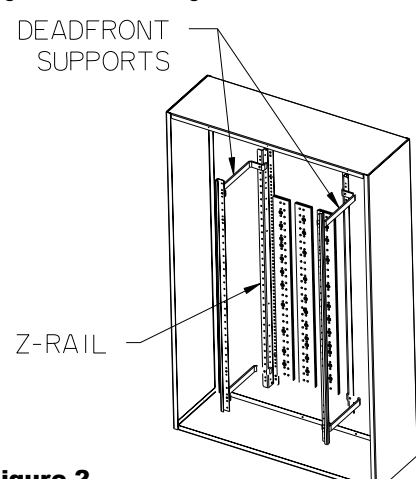
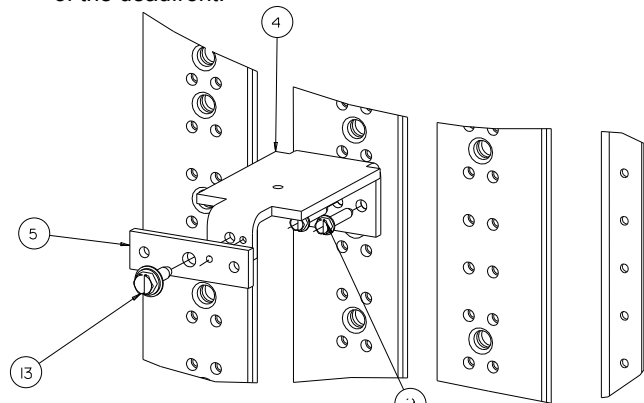
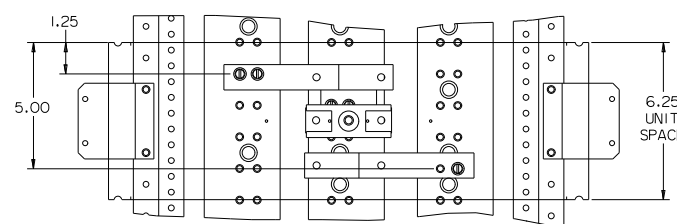
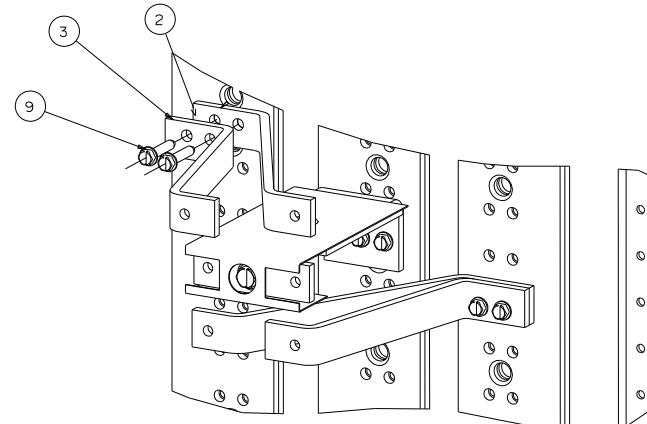

Figure 2
Figure 3
Figure 4
Figure 6
3. Reference fig. 2 - To mount a VL JG Frame breaker, 6.25" of empty unit space is required. To locate the mounting position, measure from the top deadfront support to the top of the empty unit space filler on the deadfront. Transfer this dimension from the deadfront support along the Z-rail and mark. This will be the unit space as shown on Fig. 4. After marking the Z-rail, remove the deadfront.
5. Reference fig 3 and fig.4 - The first items to be installed are the B strap and B-phase link (items 4 and item 5). Locate two 0.228" diameter holes on the B-phase of the section bus 5.00" down from the top of 6.25" unit space selected. Insert two 1/4-20 thread-forming screws (see the mounting hardware kit, item 9, for proper length) through the two holes in the B-phase strap (item 4) and then into the 0.228" diameter holes on the B-phase bus and tighten. To install the B-phase link (item 5), orient the link so that the half punch on the link is inserted into the 0.218 hole in the B-phase strap (item 4). Insert one 5/16-18" screw (item 13) through the 0.375" hole on B-phase link (item 5) and then into the 0.281" diameter hole on the B-phase strap and tighten. Torque all screws to the values specified on the rear of the deadfront.
7. Reference fig. 4 and fig. 6 - Locate two 0.228" diameter holes in the A-phase section bus, 1-1/4" down from the top of 6.25" unit space selected. Insert two 1/4-20 thread-forming screws (see the mounting hardware kit, item 9, for proper length) through the two holes in the A-phase straps (item 2 and 3) and then into the 0.228" diameter holes on the A-phase bus and tighten. To install the C-phase strap (item 2 and 3) locate two 0.228" diameter holes on the C-phase section bus 5.00" down from the top of the 6.25" of unit space. Insert two more 1/4-20 screws through the two holes in the strap and then into the 0.228" diameter holes in the C-phase section bus. Orient the straps as shown in fig.6. Ensure that there is 1.75" vertically between centers of the straps. Torque all screws to the values specified on the rear of the deadfront.